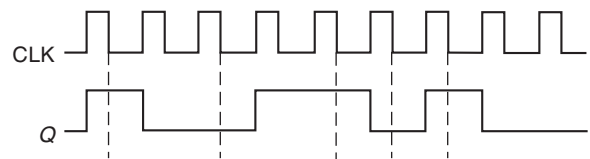

Fig. 12.68 Q Output in Relation to CLK.
35. The Q output of the edge-triggered flip-flop in Fig. 12.68 is shown in relation to the clock signal. Determine the input waveforms on the S and R inputs that are required to produce this output if the flip-flop is positive-edge triggered.